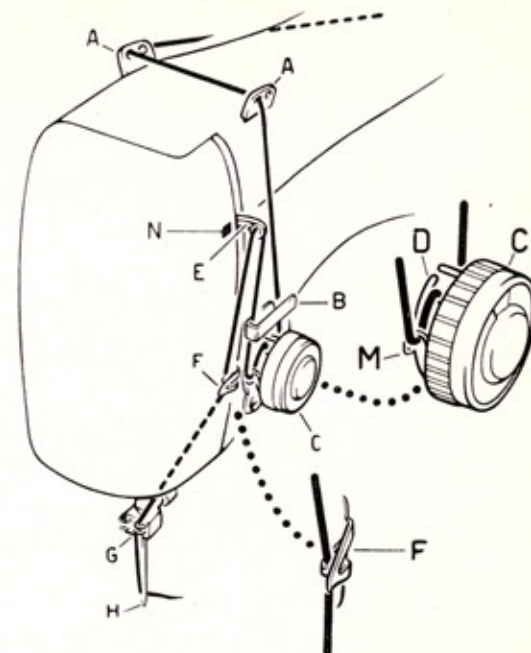

Fig. 5
Pass thread through points shown in Fig. 5. After having passed thread between tension discs housing « C », hold thread between the two thread guides « A » in the same time slightly pulling thread towards the right so that it pulls up spring « M » and places itself astride of hook « D ». The threading of spring « M » is automatically performed on the condition that tension regulating knob be at least on « 4 ». Pass thread through needle eye from left to right leaving about 4 inches hanging free.
- Bring the needle to its highest position and the thread take-up lever « E » in correspondence with mark line « N » on front plate, as shown in Fig. 5;